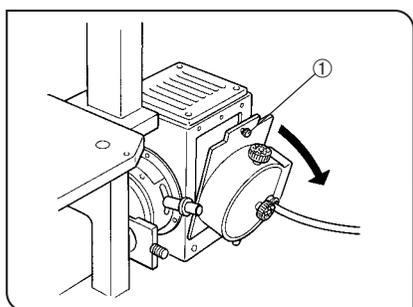

Fig. 17
8 Attaching the High-Pressure Mercury Burner (Figs. 17 & 18)
★ If the burner socket clamping screw ① is loosened while the burner is on, the interlock switch turns off the burner. (Fig. 17)